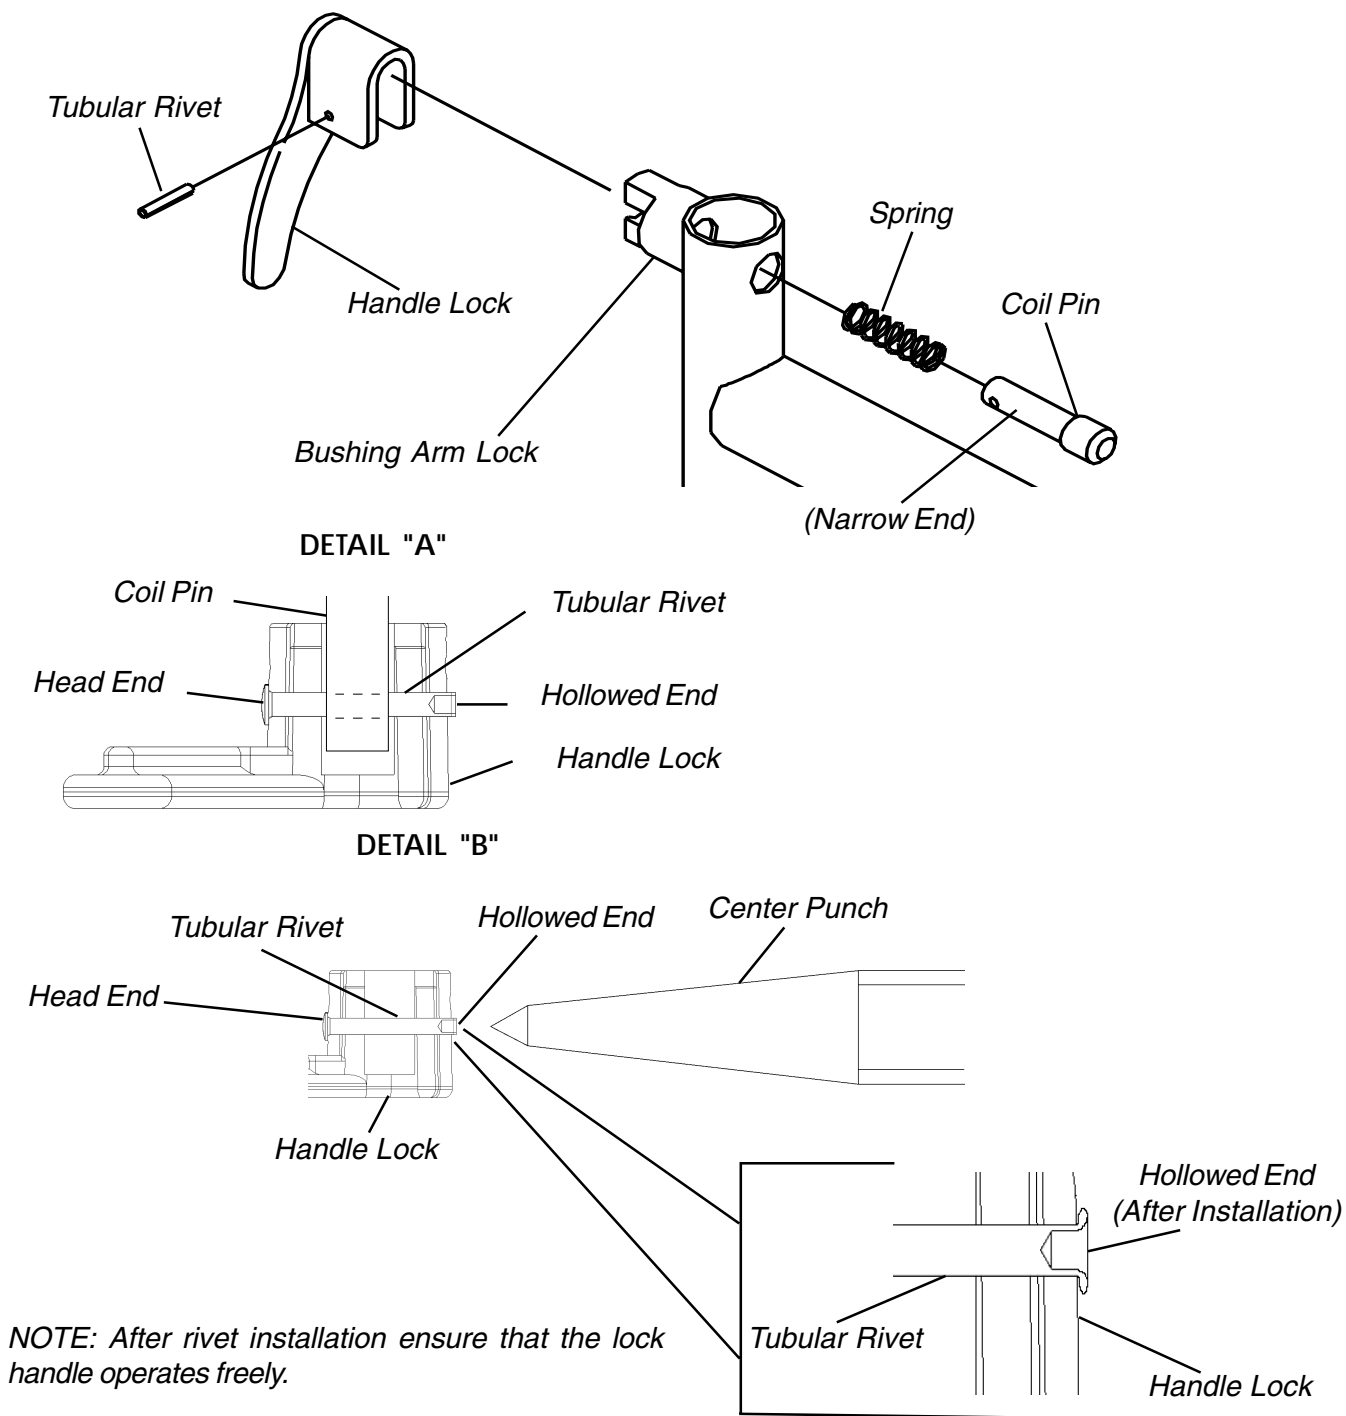

FIGURE 1 - INSTALLING THE HANDLE LOCK
Installing Handle Lock Assembly (Figure 1)
4. Insert the EXISTING coil pin and spring into the bushing arm lock as shown in **FIGURE 1**.
6. Ensure hole in the EXISTING coil pin is aligned with holes in the NEW handle lock, insert tubular rivet through NEW handle lock and EXISTING coil pin as in **FIGURE 1 DETAIL "A"**.